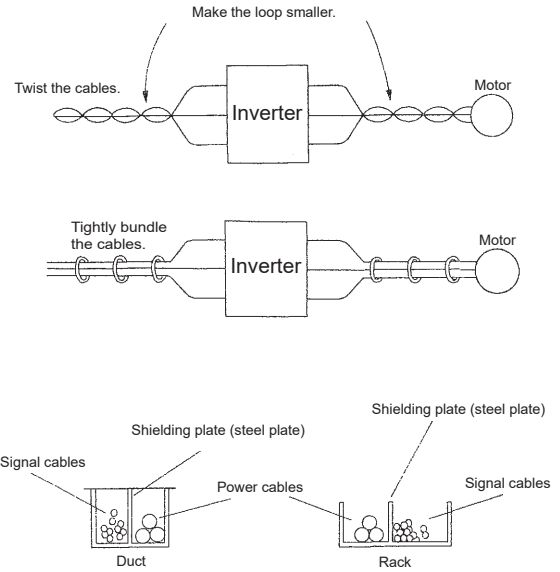

Fig. App 2.11 Countermeasures against electromagnetic induction noise
The separation distance should be usually 30 cm or more (at least 10 cm). If there is not enough space, separation using shielding plates (steel plates) as shown in Fig. App 2.11 is possible.
- (b) Besides shielded cables, a metallic pipe or shielding plate is also effective as is the case with countermeasures against electromagnetic induction noise. (Refer to Fig. App 2.11.)
(5) Electrical path propagated noise